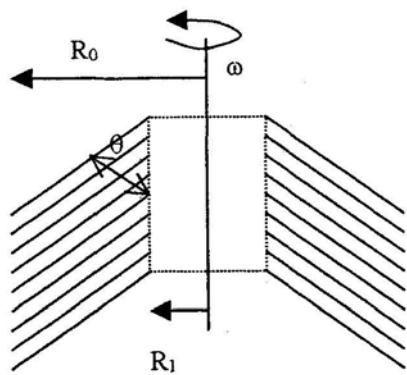

Figure Q.3.[b]: Sketch of disc centrifuge used in centrifugation of yeast.
- [b] The sigma factor  $\Sigma$  of a disk-type centrifuge (see Figure Q.3.[b].) can be described by the following equation:
We want to centrifuge yeast cells ( $d = 5 \mu m$ ,  $\rho_p = 1100 \text{ kgm}^{-3}$ ) in water ( $\rho_w = 1000 \text{ kgm}^{-3}$ ,  $\mu_w = 1 \times 10^{-3} \text{ kgm}^{-1}s^{-1}$ ) using a disk-type centrifuge with the dimensions as given in Figure Q.3.[b]. The centrifuge is run at 5000 rpm. Calculate the volumetric flow rate through the centrifuge.